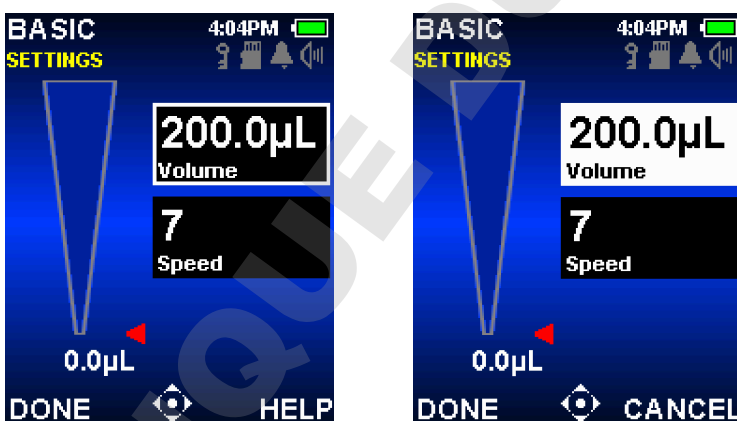

Figure 9: Basic Mode: Volume Highlighted (left), Volume in Edit Mode (right).
3. ▶ to enter the Settings screen. The first setting box in the screen, Volume, will be highlighted. This is indicated by a white border around the settings box (Figure 9 left). ▲ or ▼ to navigate between and highlight other settings.
4. ● or ▶ to edit the volume setting. The settings box will turn white to indicate it is in edit mode (Figure 9 right). ◀ or ▶ for coarse volume adjustment and ▲ or ▼ for fine volume adjustment. Hold the joystick in place to quickly scroll through values.